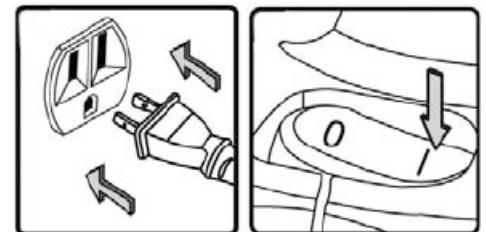

Figure 10
- 8) Start the vacuum by pushing the On/Off switch to the On position as shown in Fig.10. The On position is indicated by the international symbol "I" on the switch.